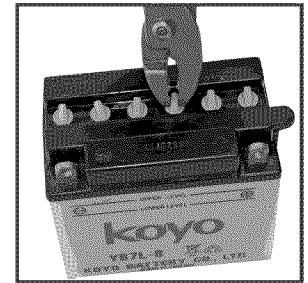

Figure 21
- Remove cell caps using a pair of pliers. (see figure 21)